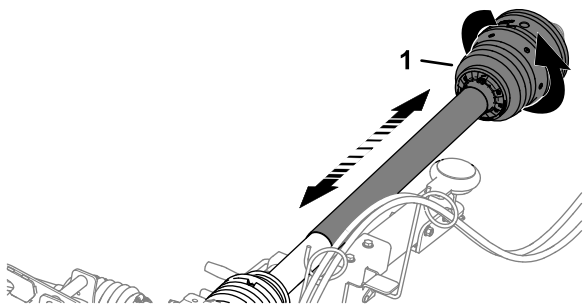

Figure 12
2. Rotate the forward half of the PTO shaft guard a full rotation (Figure 12).
3. Move the forward half of the PTO shaft guard together and apart to ensure that they telescope freely (Figure 12).